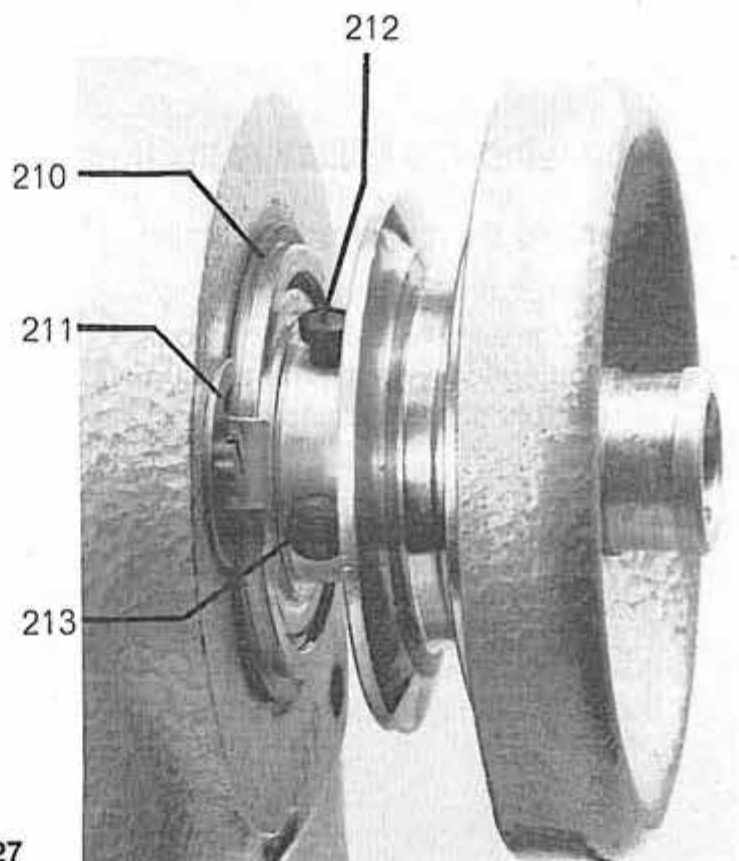

Fig. 27
## 22. Changing a belt (fig. 27)
2. Take off the V-belt, remove the two springs 211 (fig. 27) and refasten the handwheel.